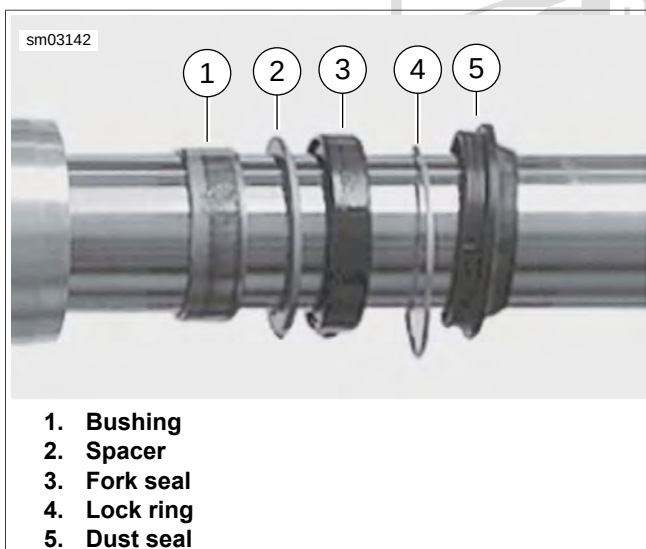

Figure 2-92. Seal Components
13. See Figure 2-92. Once fork tube and slider are separated, remove dust seal, lock ring, fork seal, spacer, bushing and chrome dust cover (not shown) from fork slider.